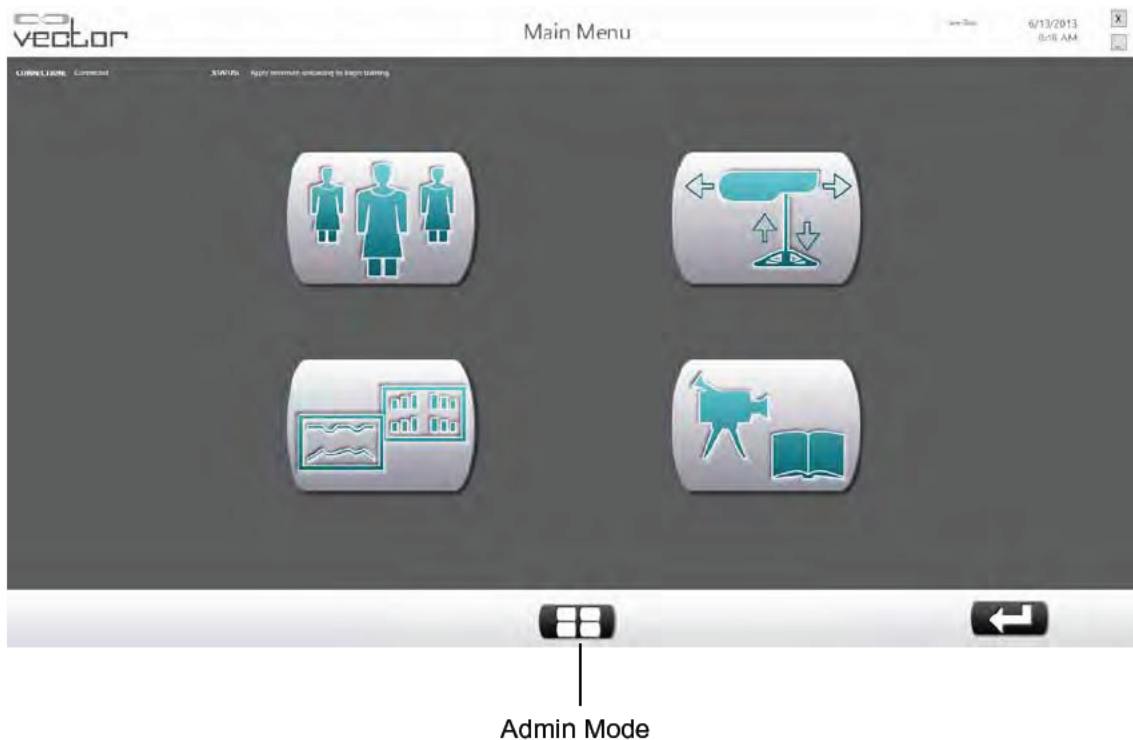

Figure 8-2: Admin Mode Button
2. The Main Menu screen will open. Press the Admin Mode button. See Figure 8-2.